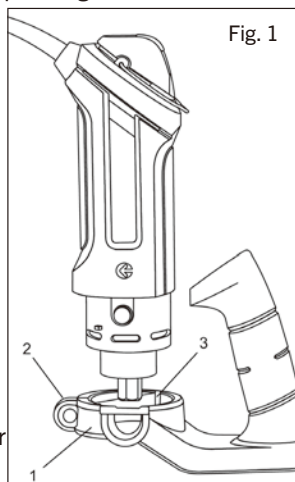

Fig. 1
1. Open the mounting collar (1) by pulling the quick release lever (2) outward (Fig. 1).
2. Slide the mounting collar onto the bottom of motor housing (2). Make sure the key (3) on the motor housing is aligned with the matching keyway in the mounting collar.
2. Install the assist handle and the freehand cutting guide as shown in Fig. 1 & 2.
4. Install the assist handle, freehand cutting guide and cutting bit, as outlined in Fig. 1, 2 & 3. Adjust depth of cut so the bit will protrude 1/8" beyond the thickness of the drywall (Fig. 7).